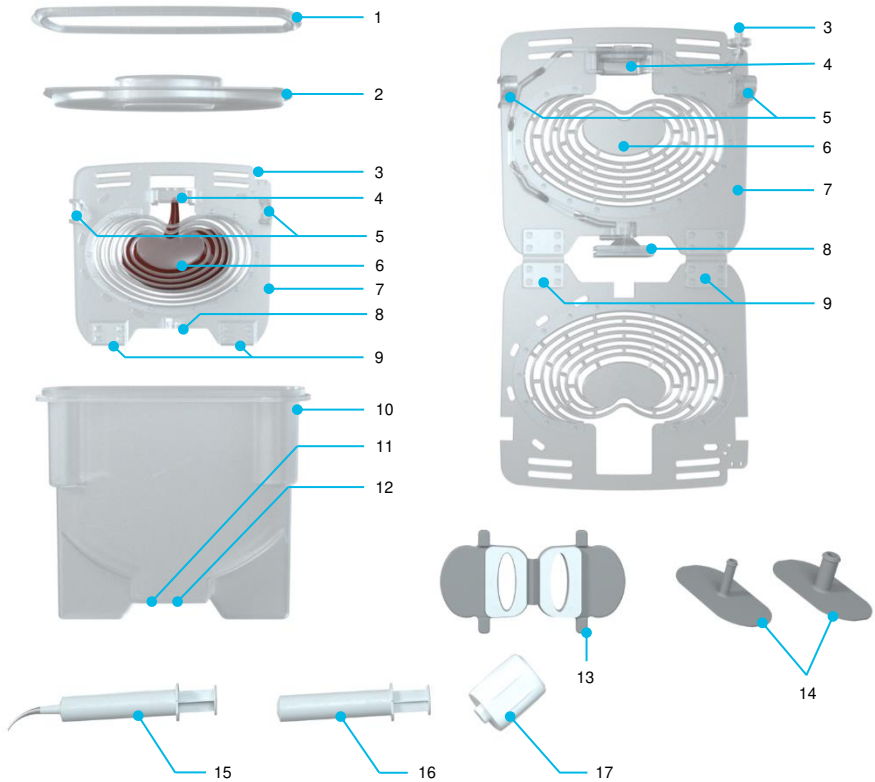

Figure 8: Kidney holder and separate components
- After de-airing, the vented cap of the pressure sensor can be replaced by a non-vented cap (figure 8, item 17).
- Remove the sterile packaging of the separately delivered kidney holder (figure 8, item 7). The kidney holder is already in the opened position.
- Place the kidney on the flexible net of the kidney holder (figure 8, item 6).
- Push the patch holder with renal artery in the cassette of the kidney holder (figure 8, item 4). Move the cassette to set the correct length for the renal artery,